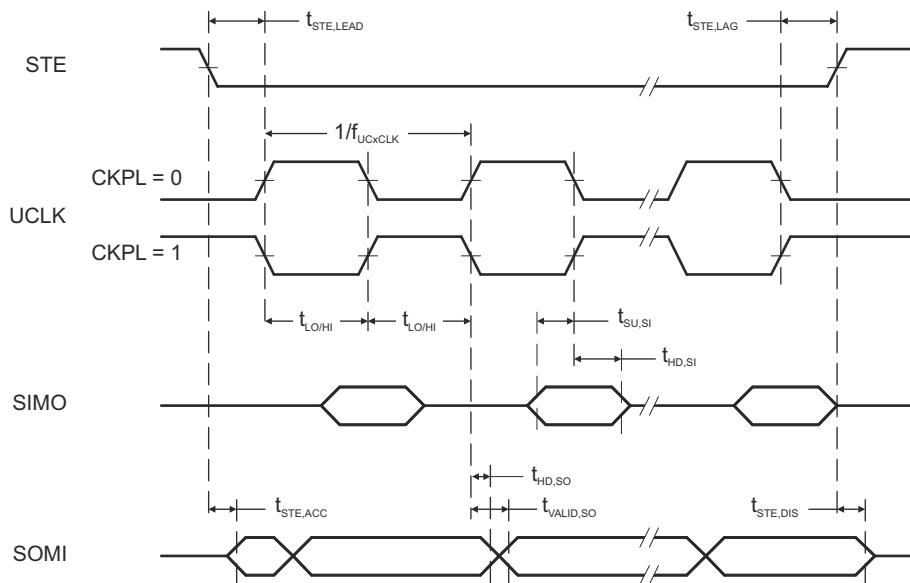
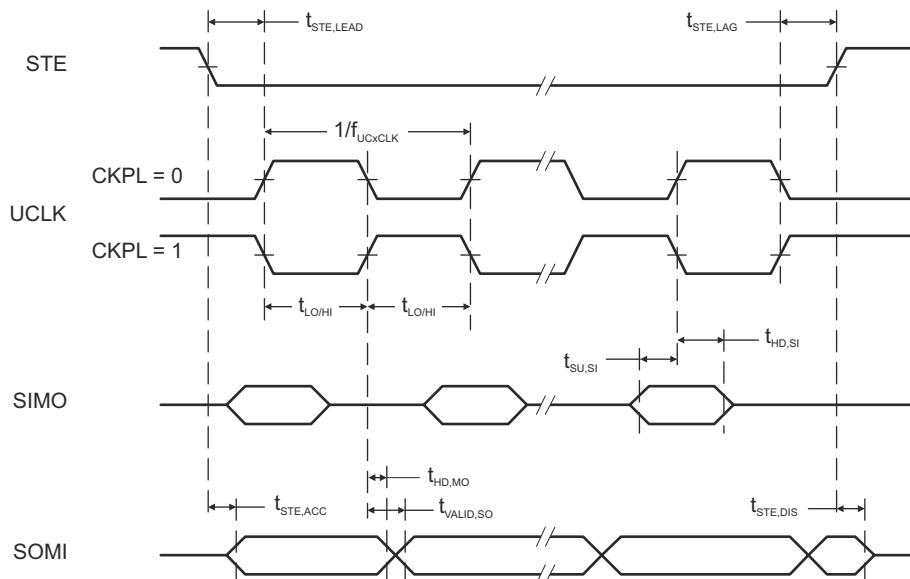

Figure 8-13. SPI Slave Mode, CKPH = 0
Figure 8-14. SPI Slave Mode, CKPH = 1
over recommended ranges of supply voltage and operating free-air temperature (unless otherwise noted)⁽¹⁾ (see Figure 8-13 and Figure 8-14)
- (2) Specifies the time to drive the next valid data to the SOMI output after the output changing UCLK clock edge. See the timing diagrams in Figure 8-13 and Figure 8-14.
- (3) Specifies how long data on the SOMI output is valid after the output changing UCLK clock edge. See the timing diagrams in Figure 8-13 and Figure 8-14.